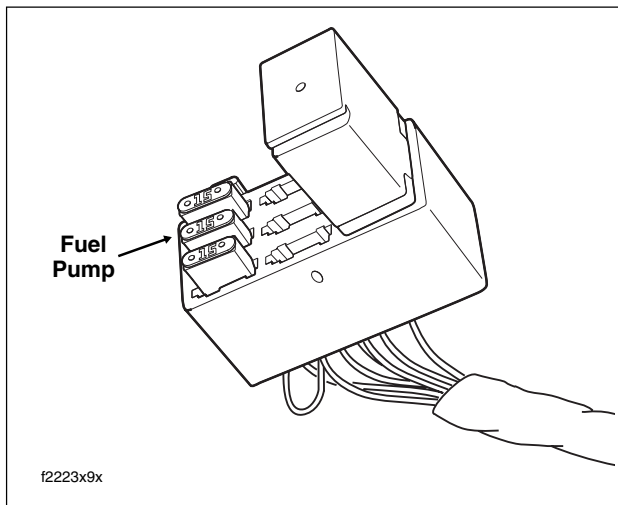

Figure 9-10. EFI Fuse Block
- a. Remove the 15 amp fuel pump fuse. See Figure 9-10. If necessary, see Section 9.2 ELECTRICAL BRACKET ASSEMBLY, EFI FUSES, REMOVAL.
14. Install the 15 amp fuel pump fuse. See Figure 9-10. If necessary, see Section 9.2 ELECTRICAL BRACKET ASSEMBLY, EFI FUSES, INSTALLATION.